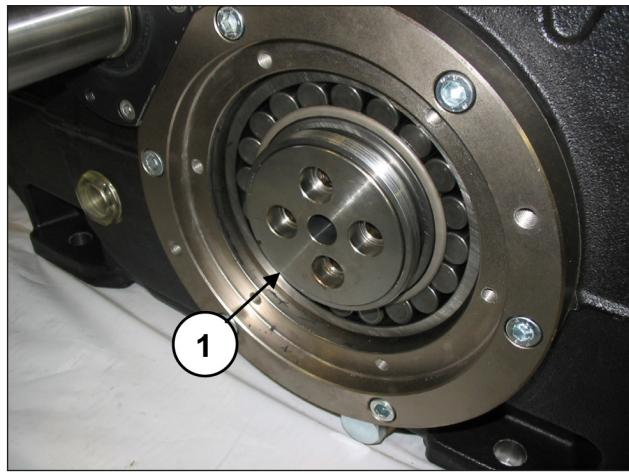

Fig. 14
The bush lock flanges must be left in position (pos. ①, Fig. 14).